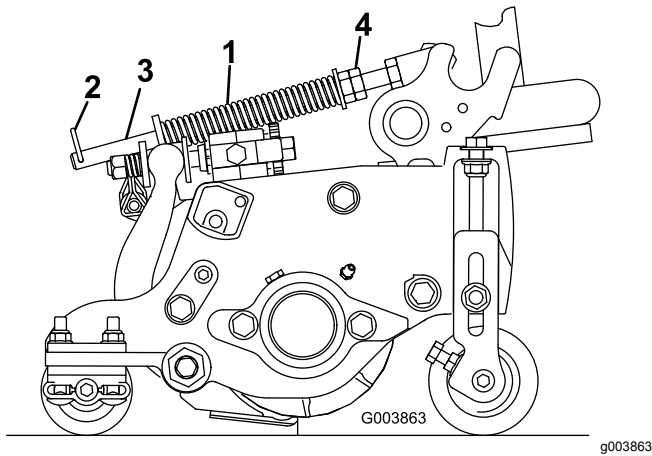

Figure 18
The turf-compensation spring (Figure 18) transfers the weight from the front to the rear roller. This helps to reduce a wave pattern in the turf, also known as marcelling or bobbing.
1. Make sure that the hairpin cotter is installed in the rear hole in the spring rod (Figure 18).
2. Tighten the hex nuts on the front end of the spring rod until the compressed length of the spring is 12.7 cm (5 inches) for 5-inch cutting units or 15.9 cm (6.25 inches) for 7-inch cutting units (Figure 18).